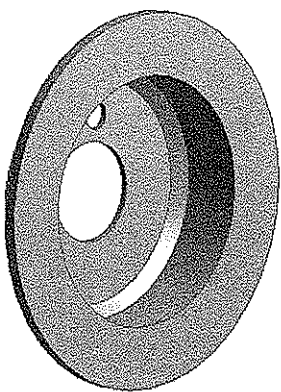

Figure 4-29 The hole created
16. Next, choose the **Generate** tool from the **Features** toolbar to generate the hole, as shown in Figure 4-29.